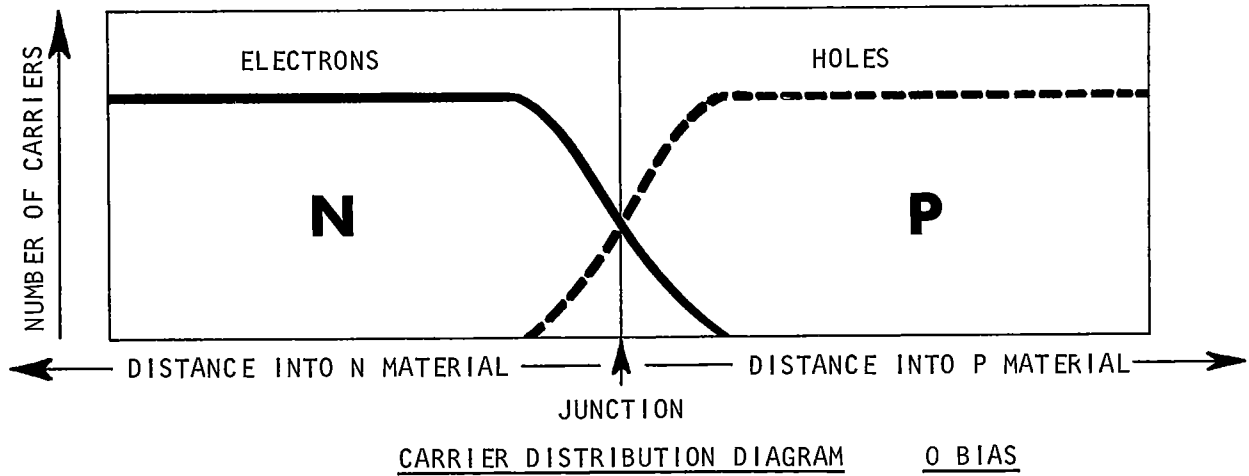

FIGURE 31A
36. In figure 31A, the lines indicating holes in the P side and electrons in the N side extend into the opposite sides of the material indicating the existence of \_\_\_\_\_ in the two sides of the junction.